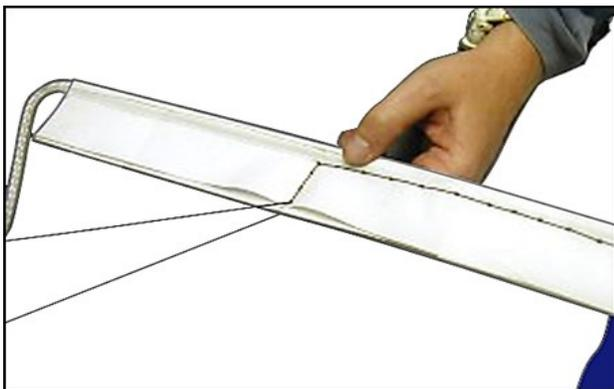

Fig. 7
Step 7: Before cutting your stitches, sew across the webbing for three or four stitches. Cut and tie off the thread. **(Fig. 7 and 8)**